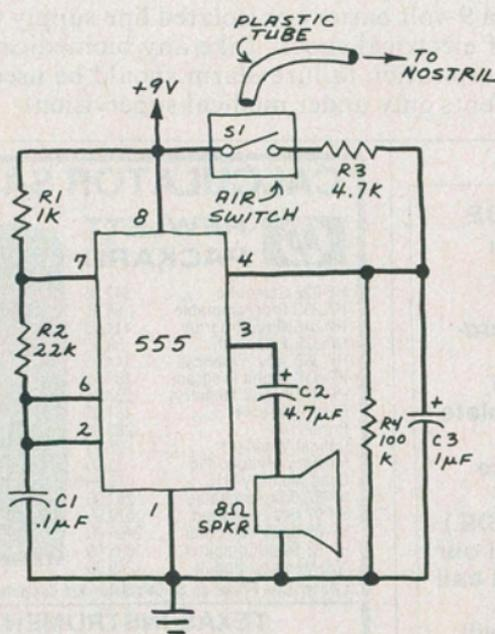

Fig. 5. Respiration indicator provides audible signal.
**Respiration Indicator.** The circuit in Fig. 5 provides a brief tone burst each time a person or animal being monitored inhales or exhales. The circuit is a straightforward 555 astable oscillator whose frequency is controlled by C1.